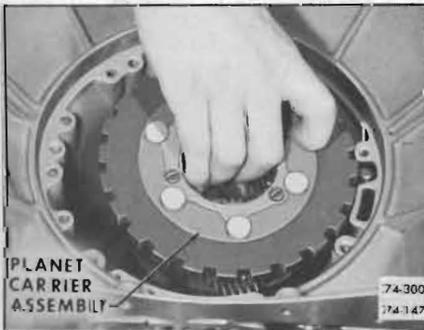

Figure 74-147
1. Remove planet carrier assembly from case, using care not to damage case bushing. See Figure 74-147.